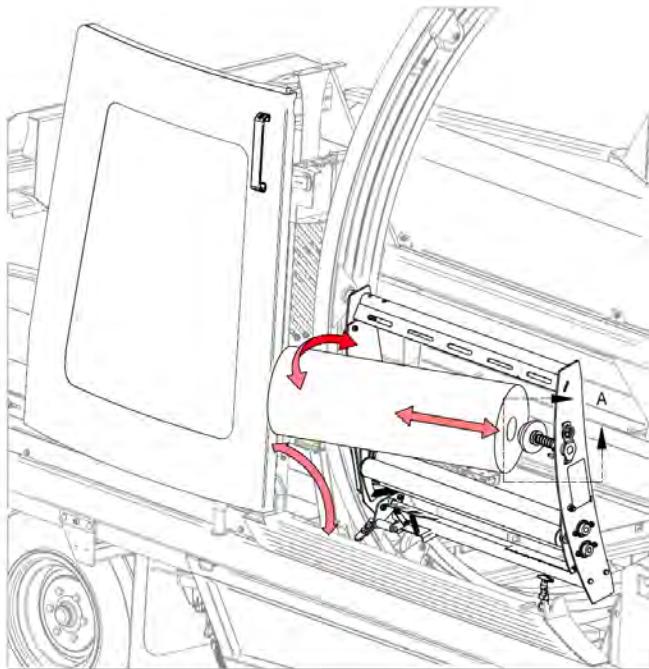

Fig.3
4. Lift left safety guard 90° to open position. See *Fig.3*.
7. Press one end of new plastic wrap roll into sliding spring spool. See *Fig.3*.